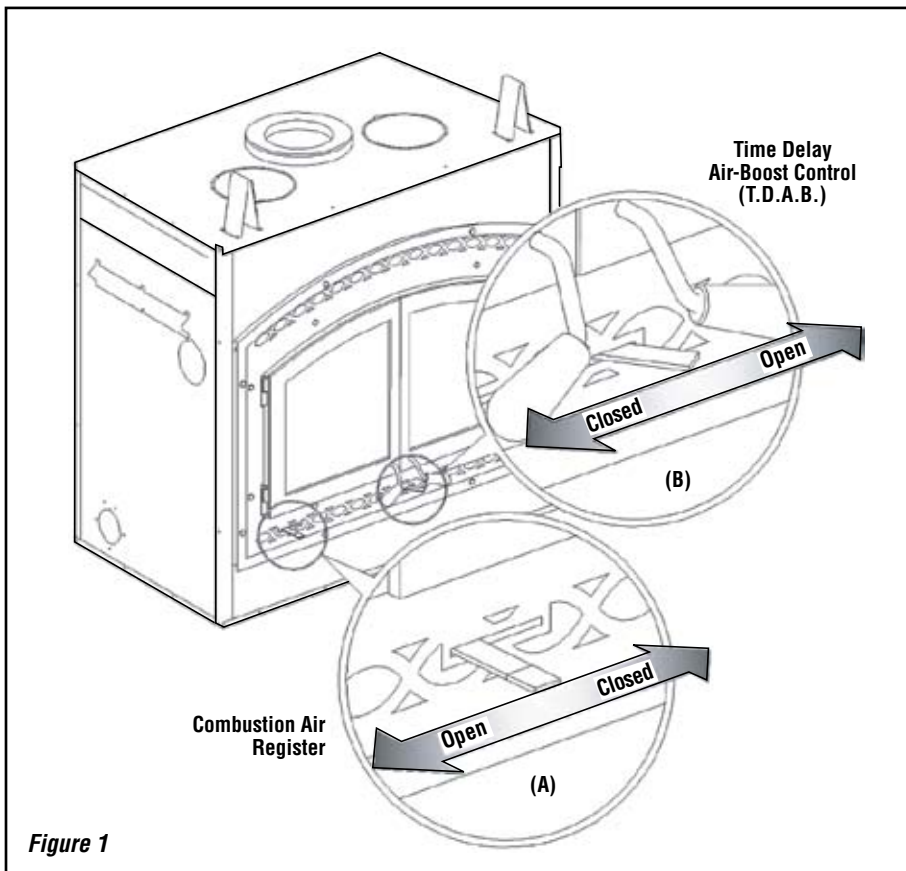

Figure 1
The combustion air control should be opened before opening the doors to minimize the possibility of back draft coming into the room (**Figure 1-A**) More details are available in *Refueling For Best Performance* on **Page 5**.
The time delayed air-boost system register is located underneath the door handles. Placed in the fully opened position, a timer with a maximum duration of 2 hours is engaged. The register gradually reduces the amount of air injected, allowing for a better start of the fire, whatever the conditions (See sections *Building a Fire* and *Refueling For Best Performance* for proper sequence of operation). This allows you to start the fire, set the primary air control to the desired burn level and the fireplace will automatically adjust itself to that level once the fire is fully established (**Figure 1-B**).
- Completely open the air control level and the T.D.A.B. (Time Delay Air Boost) level. See *Figure 1*.